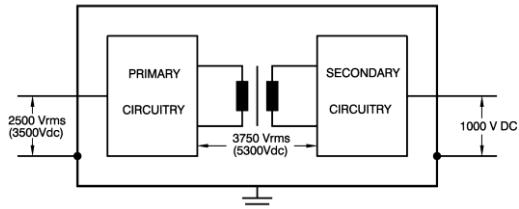

Figure 7.8: Insulation test voltages.
- The insulation of the separating components between input and output, such as transformers and opto-couplers, is tested before assembly during 1 minute at 3750 V_{RMS} (5300 V_{DC}), see Figure 7.8.